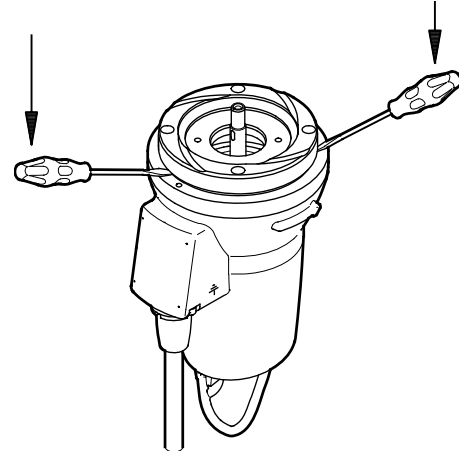

Fig. 10 Removing the oil chamber
2. Remove the four screws (188a) from the oil chamber (155).
3. Remove the oil chamber (155) from the stator housing (55) using screwdrivers (E). If the fitting is tight, remove the oil chamber assembly by gently tapping the screwdrivers with a plastic hammer (K). See fig. 10.